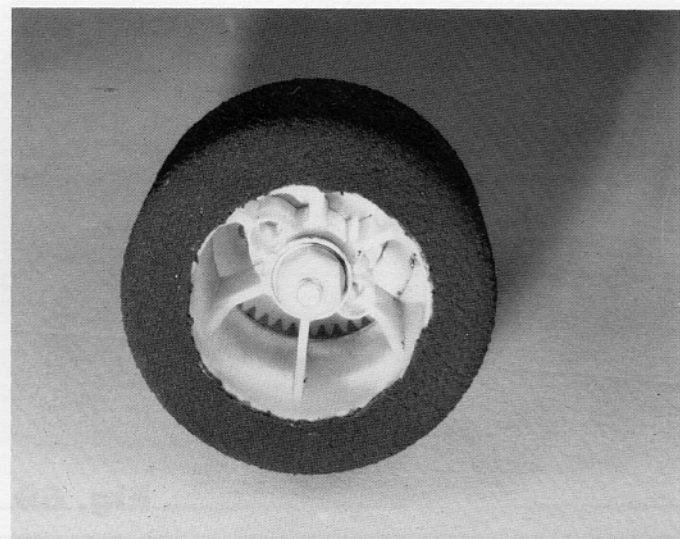

Fig. 67
□ **Fig. 74**—Now we'll adjust the diff. Hold the left hand wheel in your left hand and the right hand wheel in your right hand, as shown. Hold the wheels from turning. Take your right hand thumb, as shown, and push on the spur gear to see if you can turn it. If it will not turn, loosen the adjustment nut, shown in Fig. 67, until you can just barely push the gear forward. Now, tighten the nut just a very small amount. If you cannot push the gear forward now, then your diff is correctly adjusted.